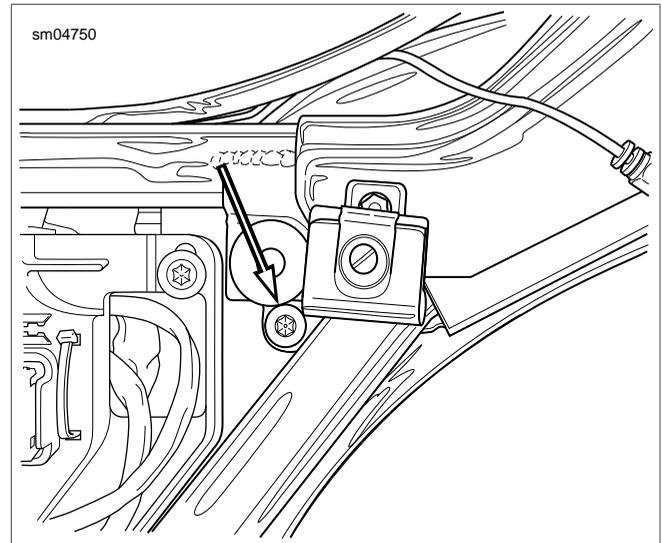
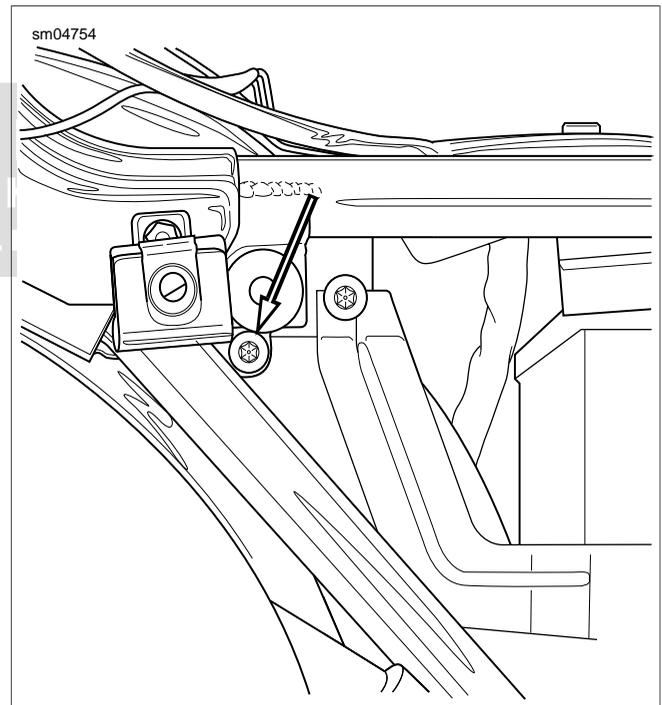

Figure 2-166. Rear Fender Side Mounting Screw (Left Side)
Figure 2-167. Rear Fender Side Mounting Screw (Right Side)
9. Remove fender side mounting screw located just below side cover grommet. Repeat step on opposite side of motorcycle. See Figure 2-166 and Figure 2-167.
4. Engaging hole in frame and fender front spacer nut, start fender side mounting screw located just below side cover grommet. Repeat step on opposite side of motorcycle. See Figure 2-166 and Figure 2-167.